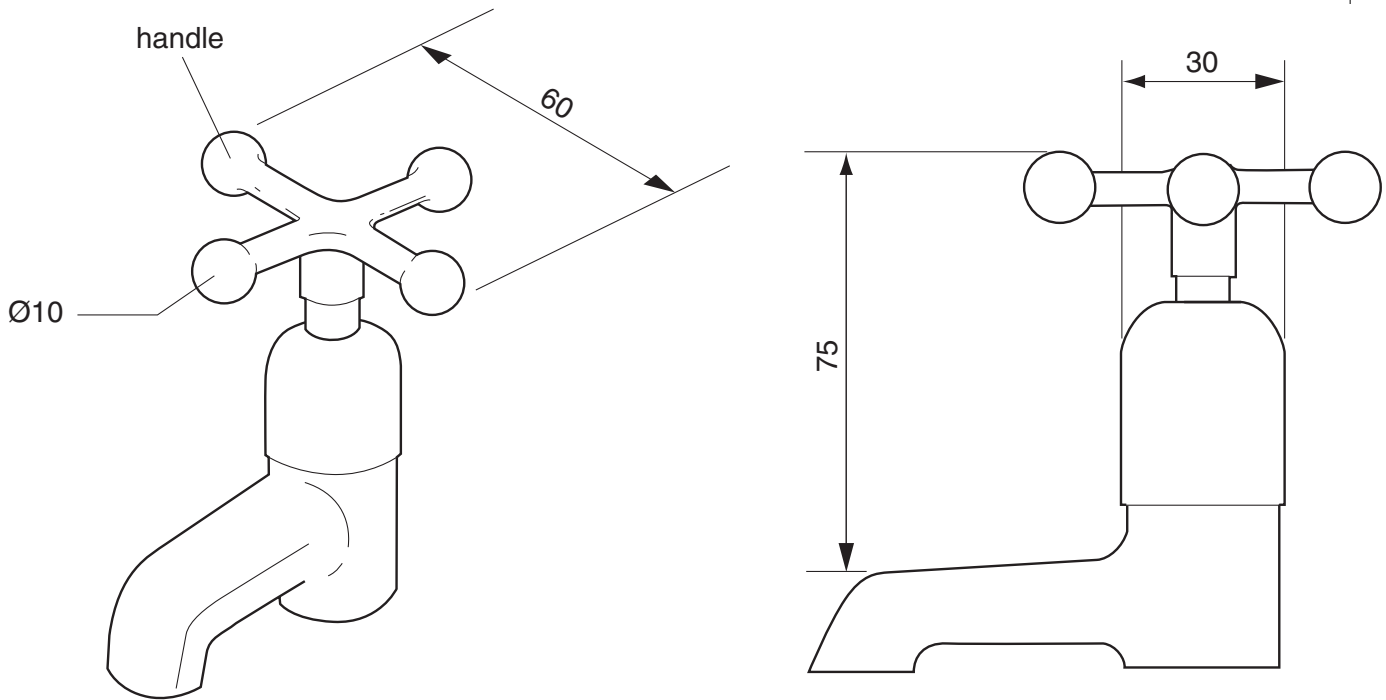

Fig. 9
- 5 Fig. 9 shows details of a 'cross-head' water tap. Some people find difficulty applying enough grip to turn the tap on or off.